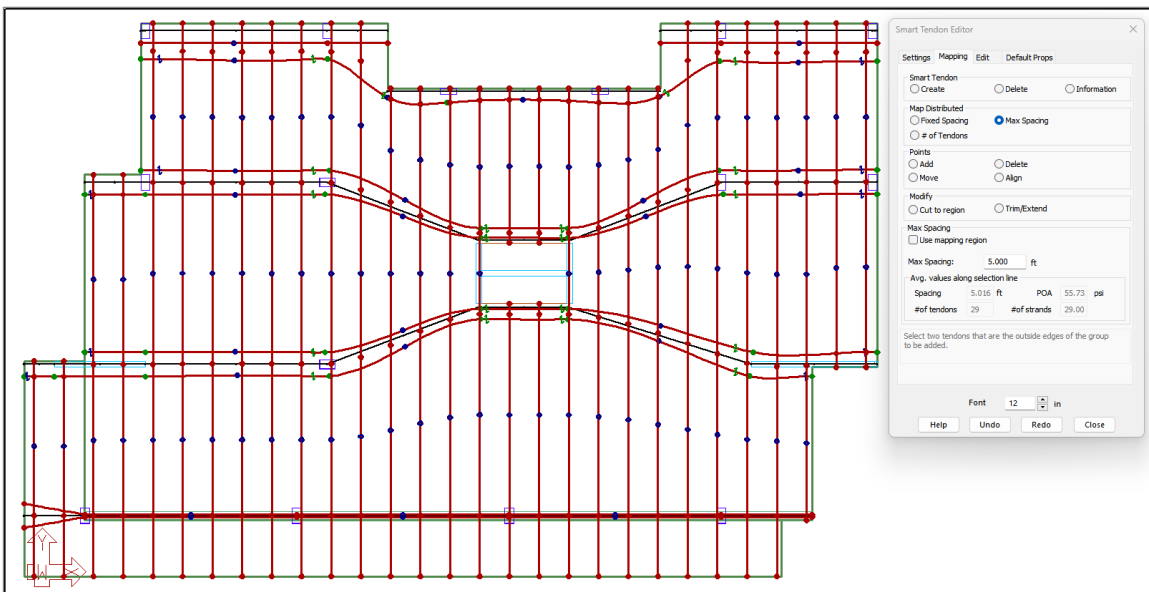

FIGURE 9-73
- You will now see the distributed tendons that have been created which will look like **FIGURE 9-73**.